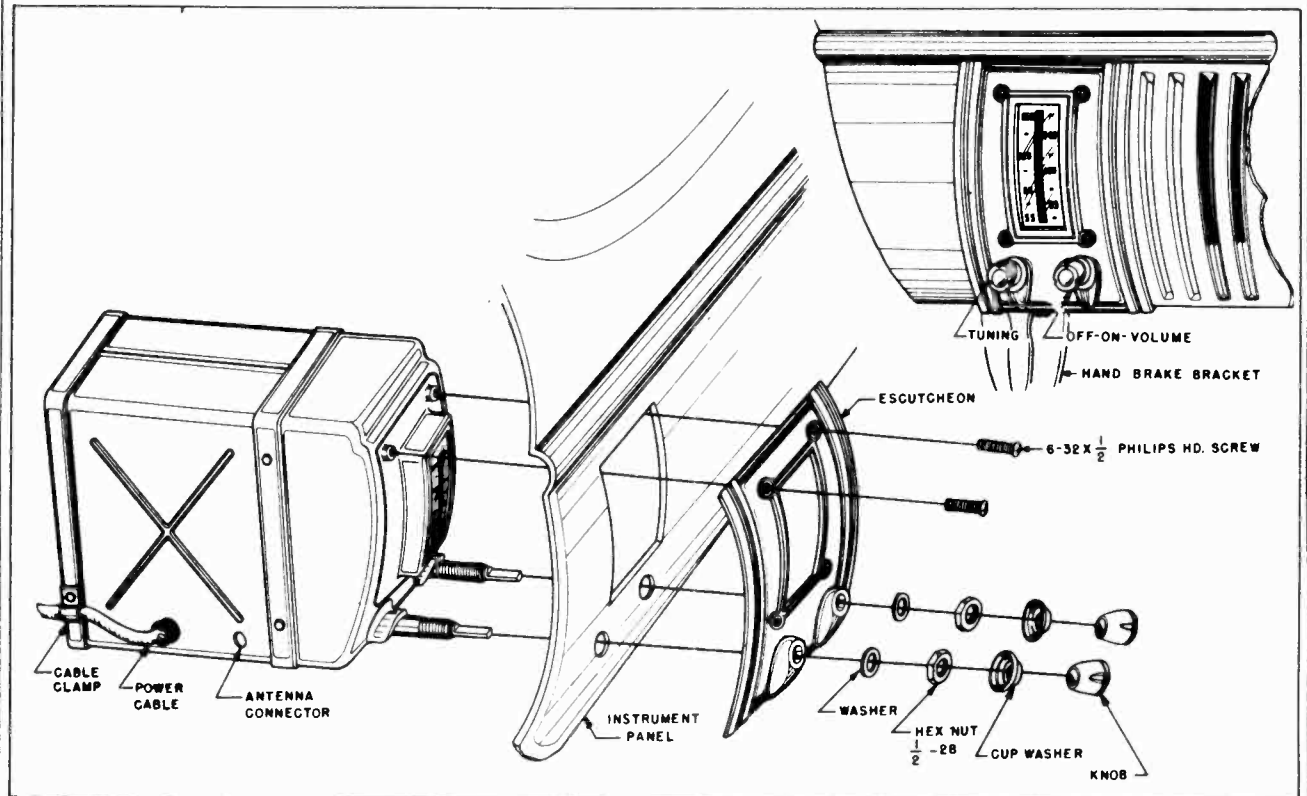

FIG. 1 R.F. TUNING UNIT DETAIL MOUNTING ASSEMBLY
7. Slide plastic escutcheon over mounting bushings and secure with flat washers, nuts, cup washers, and knobs as shown in Fig. 1.